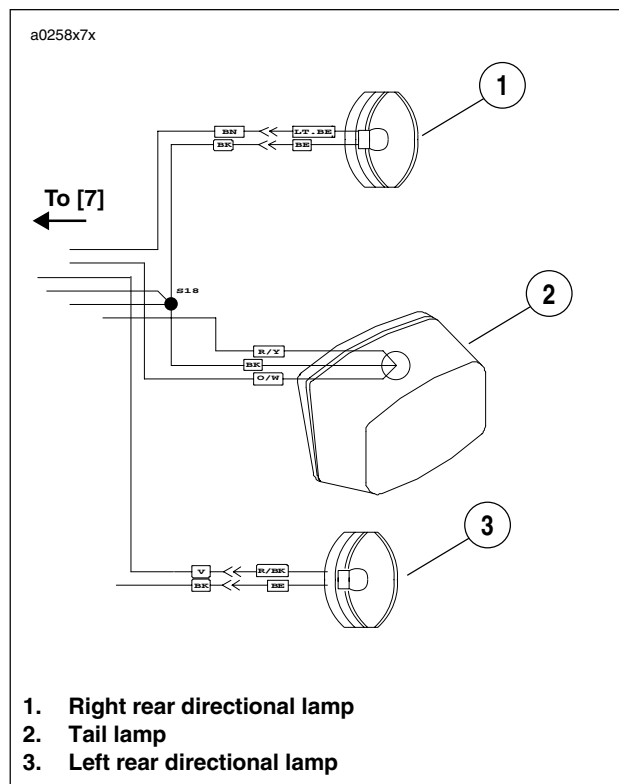

Figure 7-69. Rear Turn Signal Connections
2. See Figure 7-69. Disconnect two bullet connectors on turn signal wires.
- Attach two bullet connectors on turn signal wires as shown in Figure 7-69.